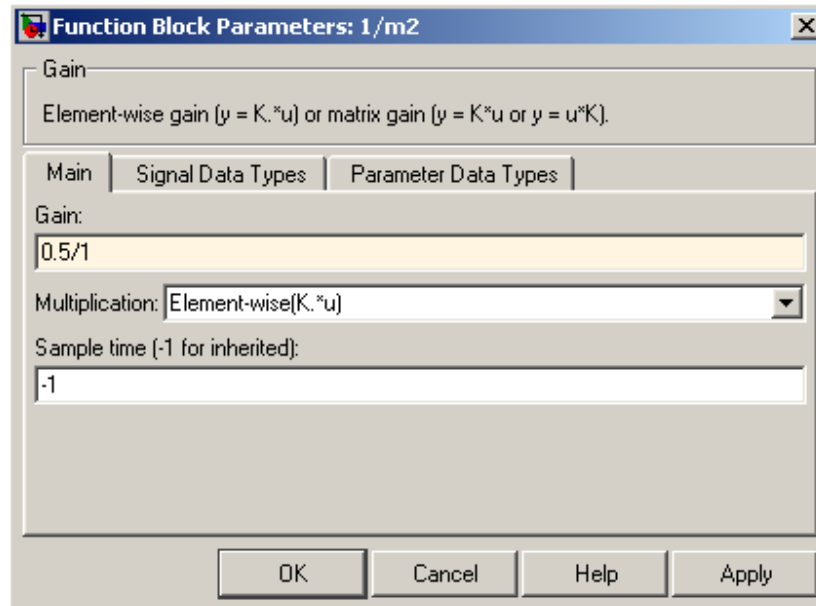

Figure 6: Parameters for the 'Gain' blocks.
9. We can modify the multiplication factor of each 'Gain' block by double clicking and modify the parameters. Since this is scalar multiplication, ensure that the 'Multiplication' field is set to 'Element-wise (K.*u)' as shown in Figure 6.